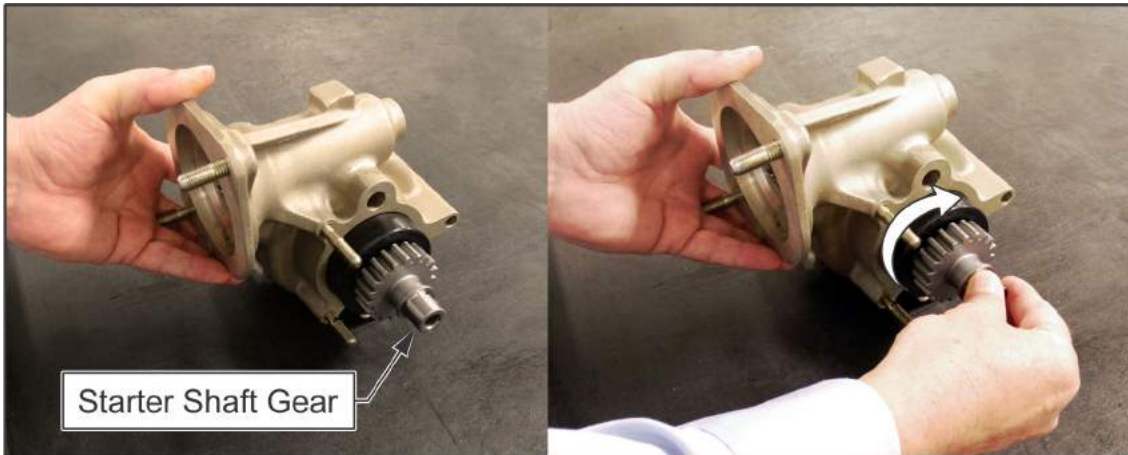

Figure 2. Rotate Starter Shaft Gear (in clockwise direction as shown)
6. Rotate the starter adapter in clockwise direction by hand (starter shaft gear, see Figure 2):